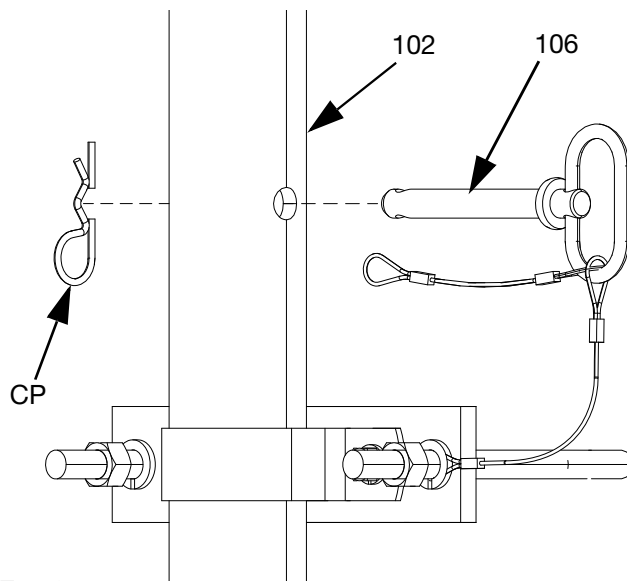

FIG. 8
11. With the ram in the fully lowered position, install the assembly onto the back Uni-Drum cylinders using the brackets (101), bolts (108), and washers (114). Before installing both sets of nuts and washers onto the top U-bolts, slide the eyelet of the 24 inch lanyard (107) over one side of the U-bolt to capture it between the bracket (101) and the washer (114). See FIG. 8. Assemble to rest on the Uni-Drum base plate. Orient the outer support pipe approximately 45° from the back Uni-Drum cylinder centerline. Do